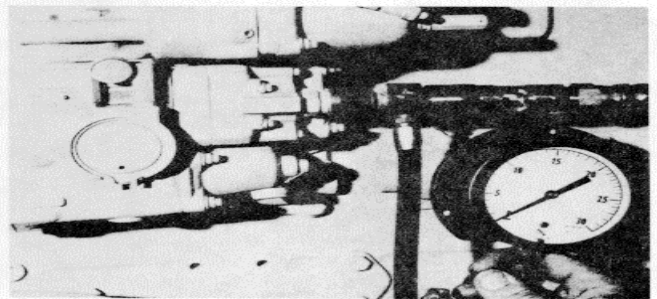

Figure 16G-101. Checking Fuel Restriction
1. Fuel filter restriction can be checked using ST-434 Vacuum Gauge, Figure 16G-101.